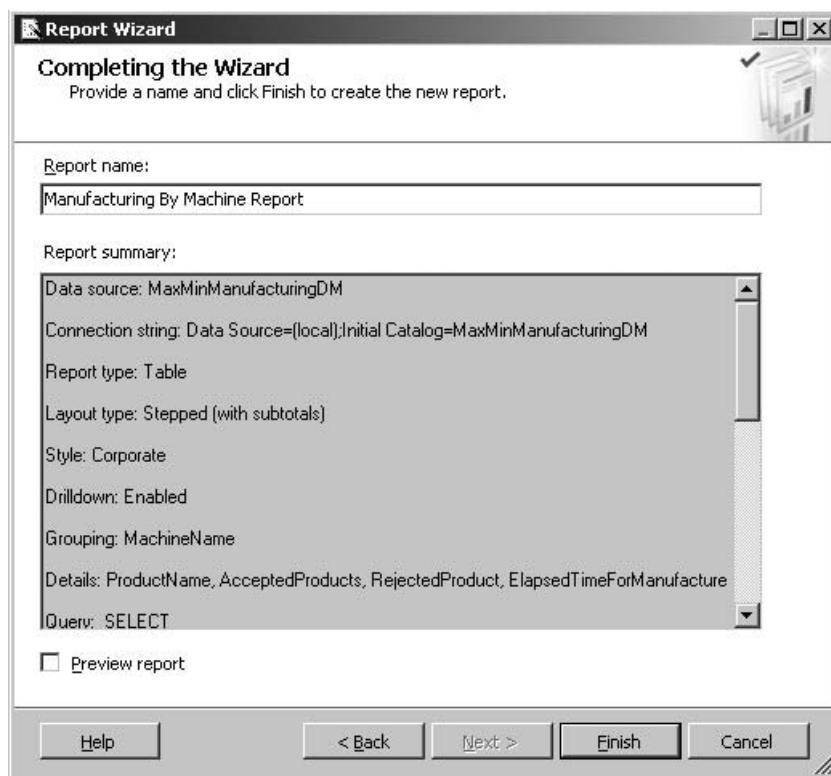

Figure 16-9 The Completing the Wizard page of the Report Wizard
28. Enter **Manufacturing By Machine Report** for Report name. The wizard page appears as shown in Figure 16-9.